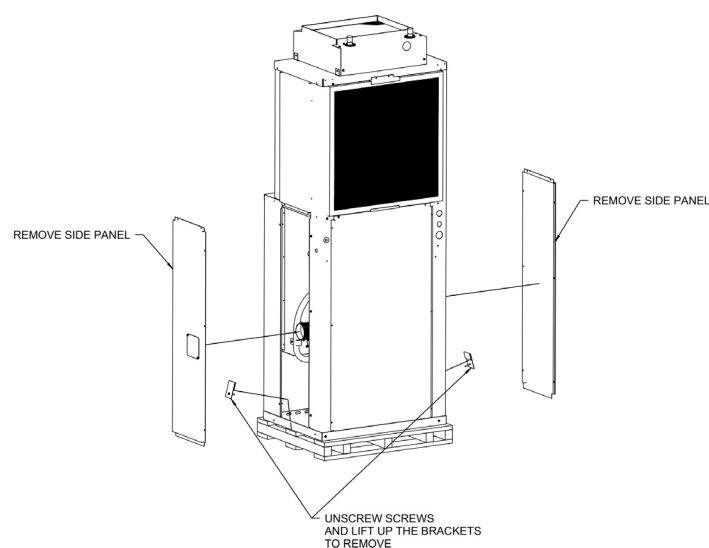

Figure 2 - Shipping Bracket Removal
- 10) Ensure that shipping brackets and screws are removed from condensing section. Refer to Figure 2 - Shipping Bracket Removal